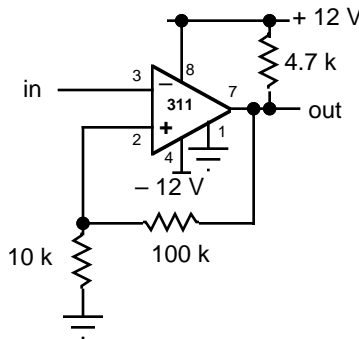

Fig 10.3
Calculate the trip points of the circuit in Fig. 10.3 Build it and see if it operates like it should. Put a sine wave on the input and note the "hysteresis." Also note that the triggering stops for sine waves below certain amplitudes.
1. Find the trip points of the Schmitt trigger in Fig. 10.3.